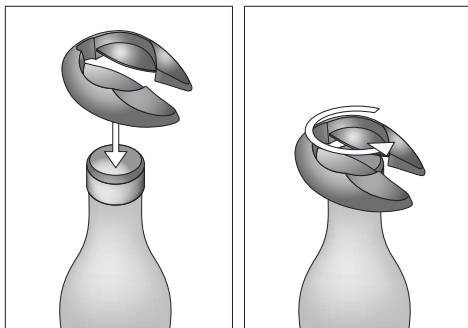

Figure 2
- 1) Use the foil cutter ❻ to cut open the foil sleeve encasing the bottle cork:
Place the foil cutter ❻ onto the closed bottle of wine as shown in Figure 2.